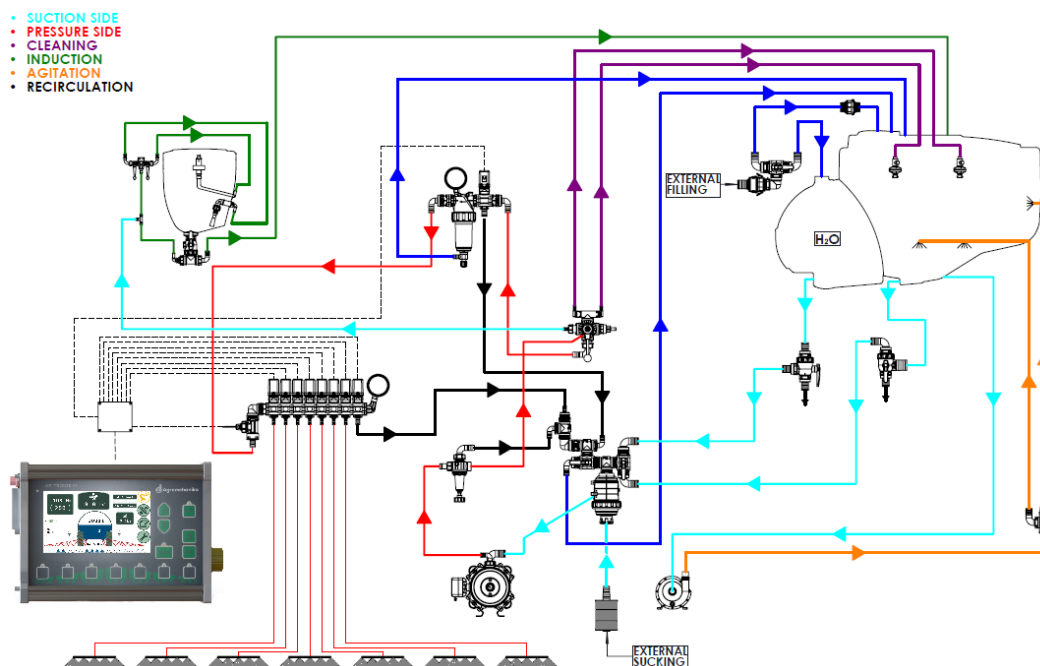

Figure 69
- Bypass regulation (Figure 69)